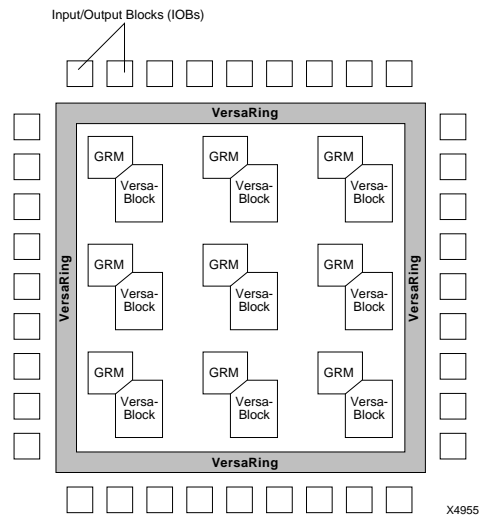
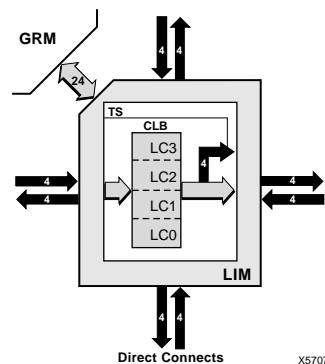
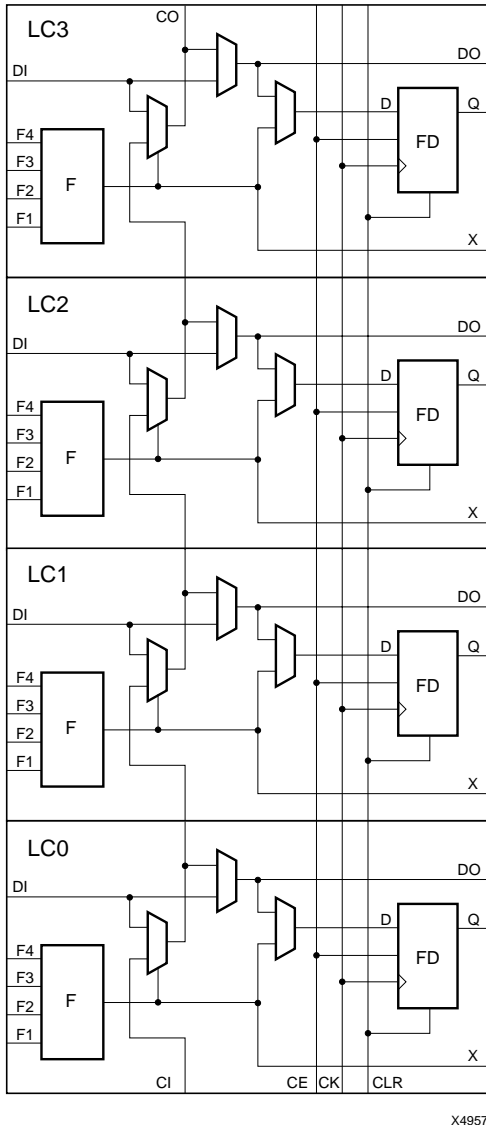

Figure 2: XC5200 Architectural Overview
Figure 3: VersaBlock
Figure 5: Configurable Logic Block
Figure 2 presents a simplified, conceptual overview of the XC5200 architecture. Similar to conventional FPGAs, the XC5200 family consists of programmable IOBs, programmable logic blocks, and programmable interconnect. Unlike other FPGAs, however, the logic and local routing resources of the XC5200 family are combined in flexible VersaBlocks (Figure 3). General-purpose routing connects to the VersaBlock through the General Routing Matrix (GRM).
The XC5200 CLB consists of four LCs, as shown in Figure 5. Each CLB has 20 independent inputs and 12 independent outputs. The top and bottom pairs of LCs can be configured to implement 5-input functions. The challenge of FPGA implementation software has always been to maximize the usage of logic resources. The XC5200 family addresses this issue by surrounding each CLB with two types of local interconnect — the Local Interconnect Matrix (LIM) and direct connects. These two interconnect resources, combined with the CLB, form the VersaBlock, represented in Figure 3.
Figure 5 shows the logic in the XC5200 CLB, which consists of four Logic Cells (LC[3:0]). Each Logic Cell consists of an independent 4-input Lookup Table (LUT), and a D-Type flip-flop or latch with common clock, clock enable, and clear, but individually selectable clock polarity. Additional logic features provided in the CLB are:
Four fast feed-through paths from DI to DO are available, as shown in **Figure 5**. This bypass is sometimes used by the automated router to repower internal signals. In addition to the storage element (Q) and direct (DO) outputs, there is a combinatorial output (X) that is always sourced by the LookUp Table.